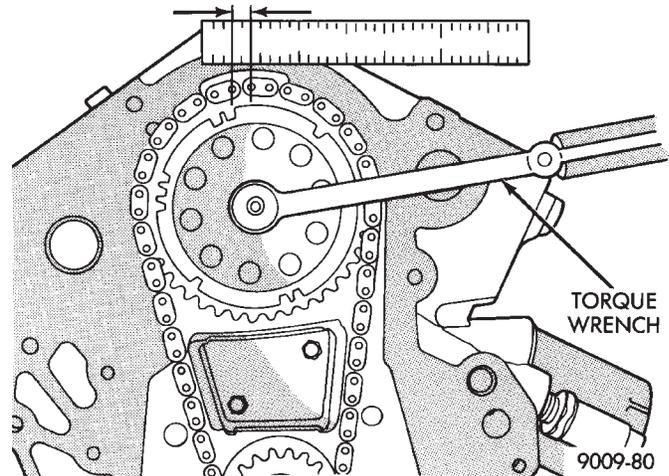
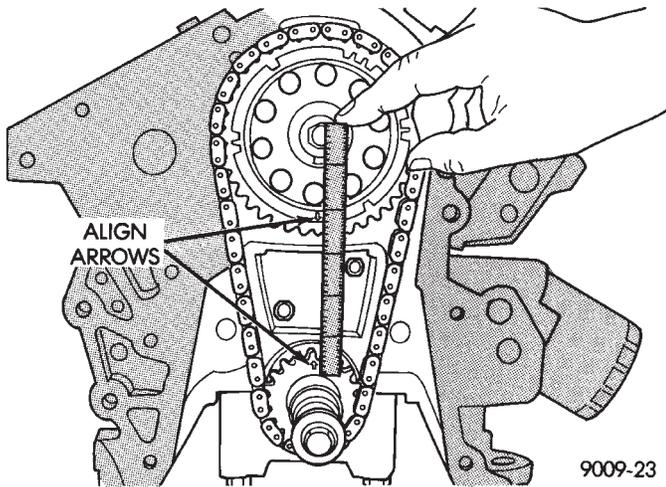

Fig. 4 Measuring Timing Chain Wear and Stretch
Fig. 5 Alignment of Timing Marks
(1) Place a scale next to timing chain so that any movement of chain may be measured.
(2) Place a torque wrench and socket on camshaft sprocket attaching bolt and apply torque in direction of crankshaft rotation to take up slack; 41 N·m (30 ft. lb.) with cylinder head installed or 20 N·m (15 ft. lb.) with cylinder heads removed. **With a torque applied to the camshaft sprocket bolt, crankshaft should not be permitted to move. It may be necessary to block crankshaft to prevent rotation.**
(3) Holding a scale even, with dimension reading as shown (Fig. 4), along edge of chain links. Apply torque in the reverse direction to 41 N·m (30 ft. lbs.) with cylinder heads installed, or 20 N·m (15 ft. lbs.) with cylinder heads removed. Check amount of chain movement (Fig. 4).
(4) Install a new timing chain, if its movement exceeds 3.175mm (1/8 inch) (Fig. 4).
(5) If chain is not satisfactory, remove camshaft sprocket attaching bolt, and remove timing chain with camshaft sprocket.
(6) Using a suitable puller remove the crankshaft pulley. Be careful not to damage the crankshaft surface.
(7) Position a new crankshaft sprocket on the shaft, install sprocket with suitable tool and mallet. Be sure sprocket is seated into position.
(8) Rotate crankshaft sprocket so the timing mark is to the 12 o'clock position.
(9) Place timing chain around camshaft sprocket and place the timing mark to the 6 o'clock position.
(10) Place timing chain around crankshaft sprocket and install camshaft sprocket into position.
(11) Using straight edge to check alignment of timing marks (Fig. 5).
(12) Install camshaft bolt and washer. Tighten to 47 N·m (35 ft. lbs.).